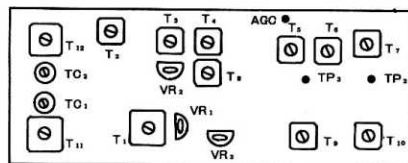
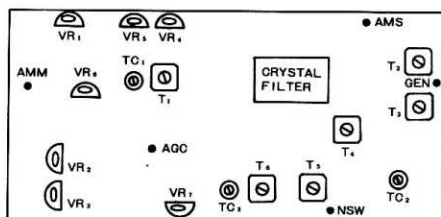

Fig. 18
Fig. 19
2) Adjust the SS generator to produce a 145.0 MHz signal at a level anywhere between 10 and 20 dB and feed this signal into the transceiver through its antenna terminal, as shown. Throttle down the SSG output gradually until AGC disappears. Adjust T₄, T₅ and T₆ (of the GEN unit, Fig. 19), T₁, T₂, T₃, T₄, T₅, T₇, T₁₁ and T₁₂ (of the RX NB unit, Fig. 18) in such a way that the pointer of the AF vacuum-tube voltmeter will deflect to the farthest possible position on the scale. Hold the SSG output always at such a level as will not cause the "S" meter pointer to deflect.
- 1) Connect the vacuum-tube voltmeter to TP3 (Fig. 18).
- 3) Minimize the DC voltage at TP3 by adjusting T8, T9 and T10 (Fig. 18).
- 1) Adjust VR2 (Fig. 18) to make the pointer of this meter stay at "0" on the scale in the condition of non-reception of the signal.
- 3) Adjust VR1 (Fig. 18) to deflect the meter pointer to "9". Repeat the process, steps 1) to 3), two or three times.
- 2) Adjust VR7 and TC3 (Fig. 19) to minimize and equalize the "S" meter deflection for the two sideband signals, USB and LSB.
- 2) Adjust VR3 (Fig. 18) in such a way that the RF meter pointer will deflect to "7" (S9 position).
- 1) Referring to Fig. 19, connect the frequency counter and RF vacuum-tube voltmeter to the GEN terminal.
- 2) With MODE in FM position and STANDBY (STBY) in SEND position, adjust T3 (Fig. 19) to maximize the RF output voltage.
- 3) Adjust TC2 (Fig. 19) to obtain a frequency of 10.700 MHz.
- 6) If the frequency deviation is noted to be too narrow, enlarge it to 5 kHz by adjusting VR3 (Fig. 19).
- 1) Connect the RF voltmeter to the GEN terminal shown in Fig. 19.
- 2) With MODE set in CW position and STBY in SEND position, adjust T1 and T2 (Fig. 19) to maximize the RF voltage as read on the voltmeter.
- 4) Adjust VR5 (Fig. 19) to obtain the same output level as the FM output level previously noted.
- 5) With MODE left in AM position, adjust VR4 (Fig. 19) to obtain a 145-MHz output of 5 watts.
- 7) Supply a 1.5-kHz AG output of 2 mV, and adjust VR1 (Fig. 19) so that an AF voltage of 200 V will be read at the AMM terminal (Fig. 19).